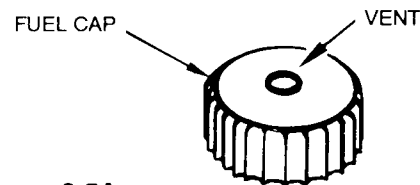

Figure 8-5A
**NOTE:** Keep vent on fuel cap clean of debris. (Figure 8-5A)